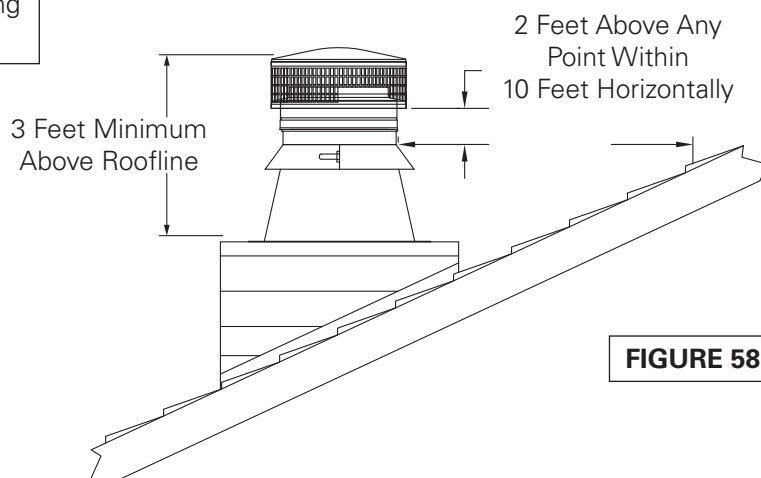

FIGURE 58
10. Termination: NFPA 211, "Standard for Chimneys, Fireplaces, Vents, and Solid Fuel-Burning Appliances," states that chimneys shall extend at least three feet above the highest point where it passes through the roof of a building, and at least two feet higher than any portion of a building within ten feet. **(Figure 58)**